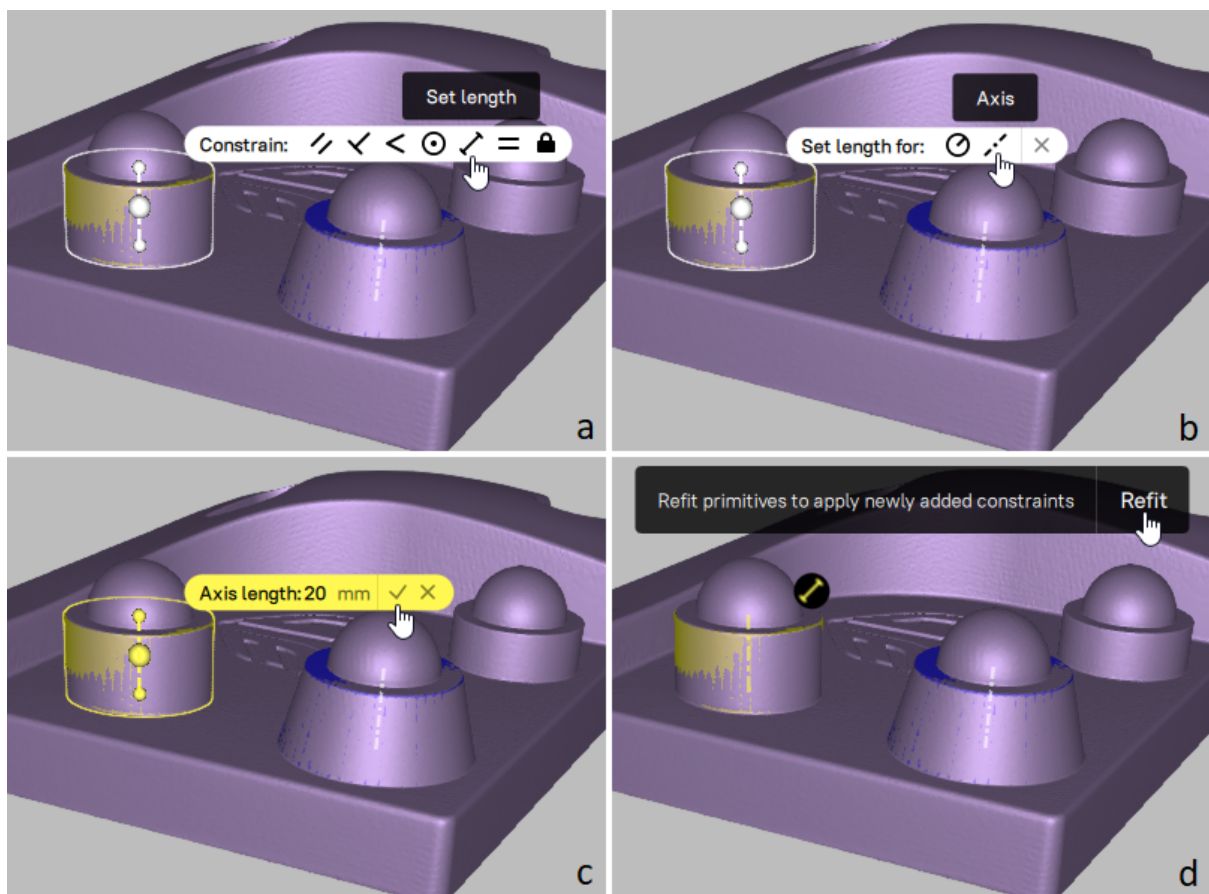
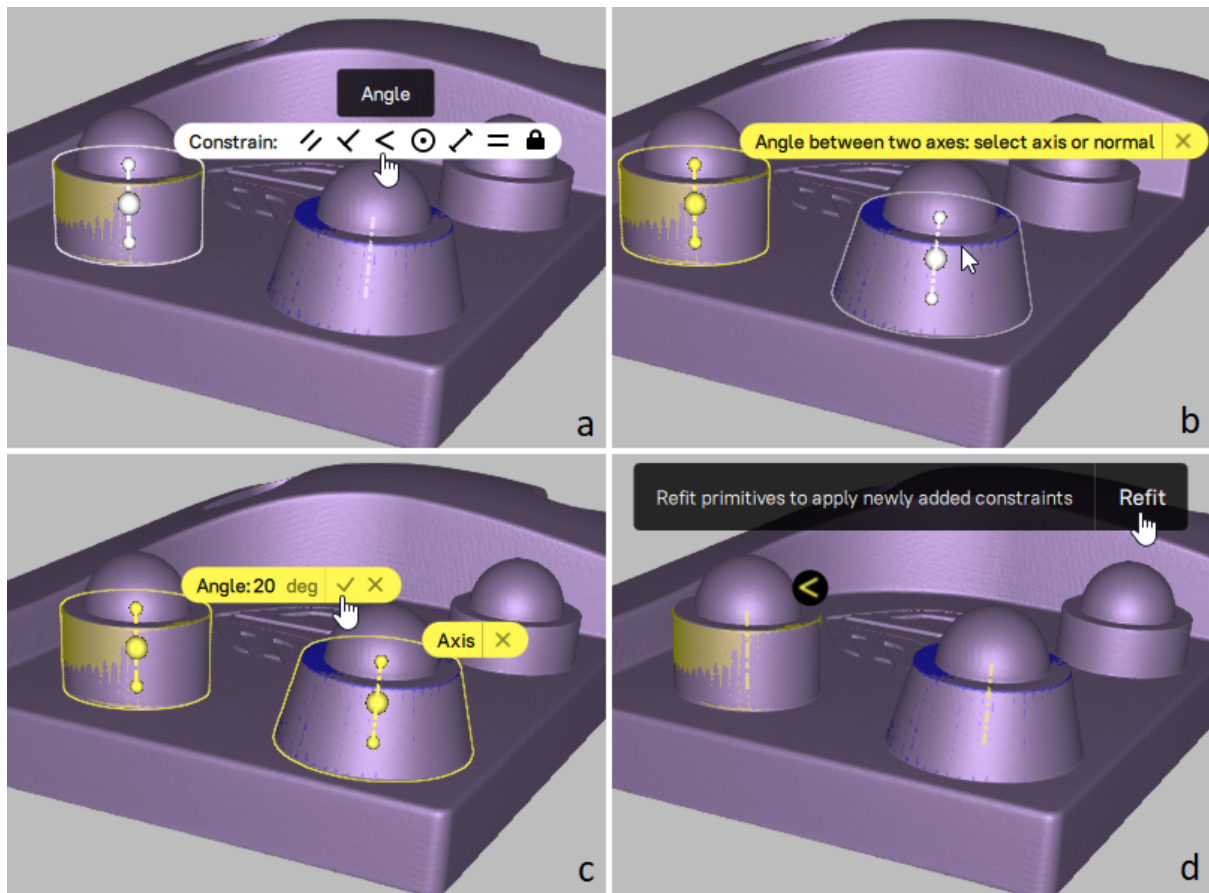
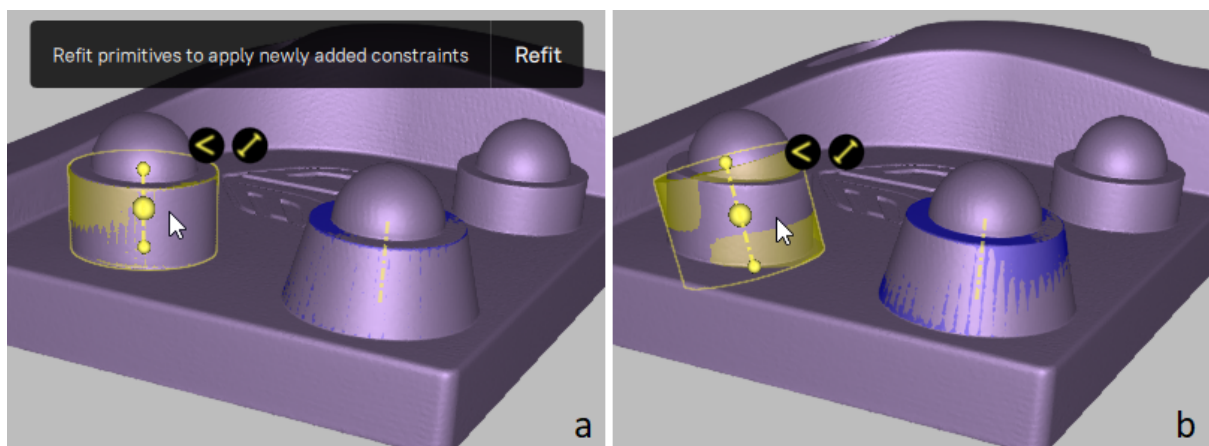

Figure 202: Example for specifying CAD primitive constraints: setting the height of a cylinder.
Figure 203: Example for specifying CAD primitive constraints: setting the requirement that the axes of two primitives are at a given angle to each other.
Figure 204: Example for applying CAD primitive constraints.
2. Click the desired primitive. The *Constrain* pop-up toolbar appears with icons for the applicable constraint types (see an example of such a toolbar for the case of a cylinder in Figure 202, a and Figure 203, a).
- For , click one of the icons of primitive sizes on an additional pop-up tool bar if it appears (see an example in Figure 202, b). Specify the desired primitive size value and click  on the appropriate pop-up toolbar (see Figure 202, c).
- For , , , and , click all other primitives to be involved into the new relation (see an example in Figure 203, b). When done, click  on the appropriate pop-up toolbar (see Figure 203, c).
The corresponding constraint icon will be displayed next to each primitive participating in the constraint but no changes to the size or position of the primitives will occur at this point (see examples in Figure 202, d and Figure 203, d). A pop-up toolbar with the *Refit* button will appear at the top of the *3D View* window.
The primitives will be rebuilt to satisfy the specified constraints. Figure 204, b presents the result of applying both constraints illustrated in Figure 202 and Figure 203.